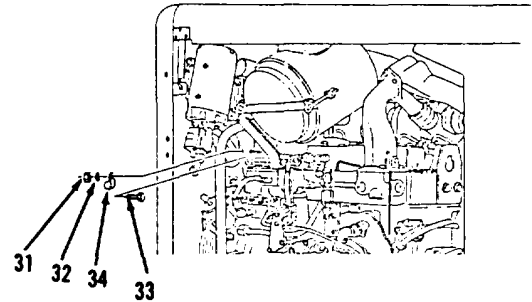
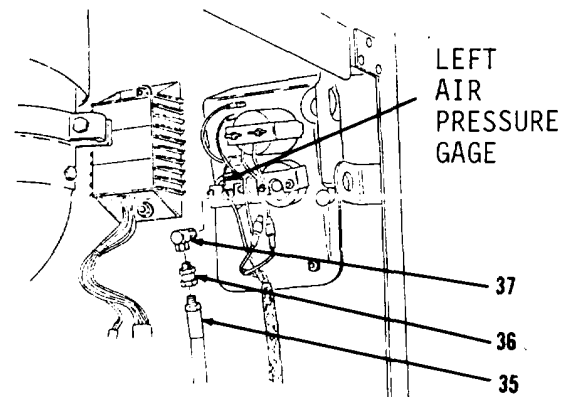

Figure 11-11.
Figure 11-12.
19. Remove nut (31), washer (32), bolt (33) and clip (34, Figure 11-11).
20. Disconnect hose assembly (35) from connector (36, Figure 11-12) from front, right side of engine compartment.
21. Remove hose assembly (35) from vehicle.
22. Remove connector (36) and elbow (37) from left air pressure gage.
1. Install elbow (37) and connector (36, Figure 11-12) on left air pressure gage.
2. Install hose assembly (35) on connector (36).
3. Install clip (34), bolt (33), washer (32) and nut (31, Figure 11-11).